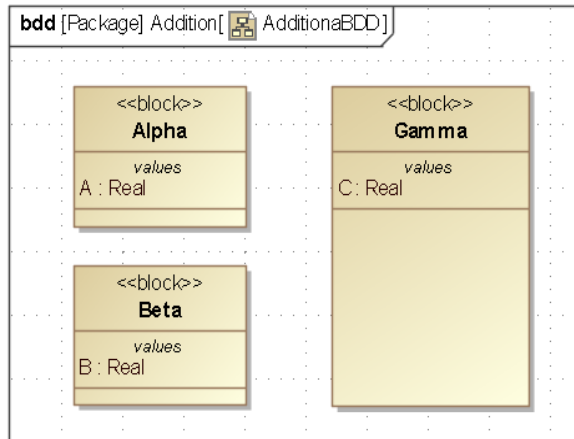

Figure 2.7 Block Definition Diagram
- c. Drag **Alpha**, **Beta**, and **Gamma** from Containment window into **AdditionBDD** (Figure 2.7)